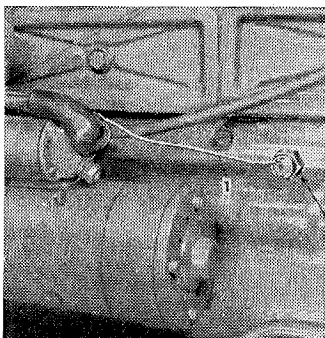

Fig. 28
- (1) Replacement of the oil pressure switch (Fig. 28):